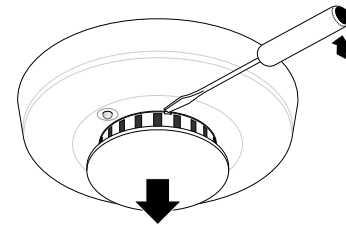

Figure 8. Removing the detector cap
2. Slide a flat-blade screwdriver into the slot on the detector cap and gently push the handle down to pry the cap up and off. See Figure 8.